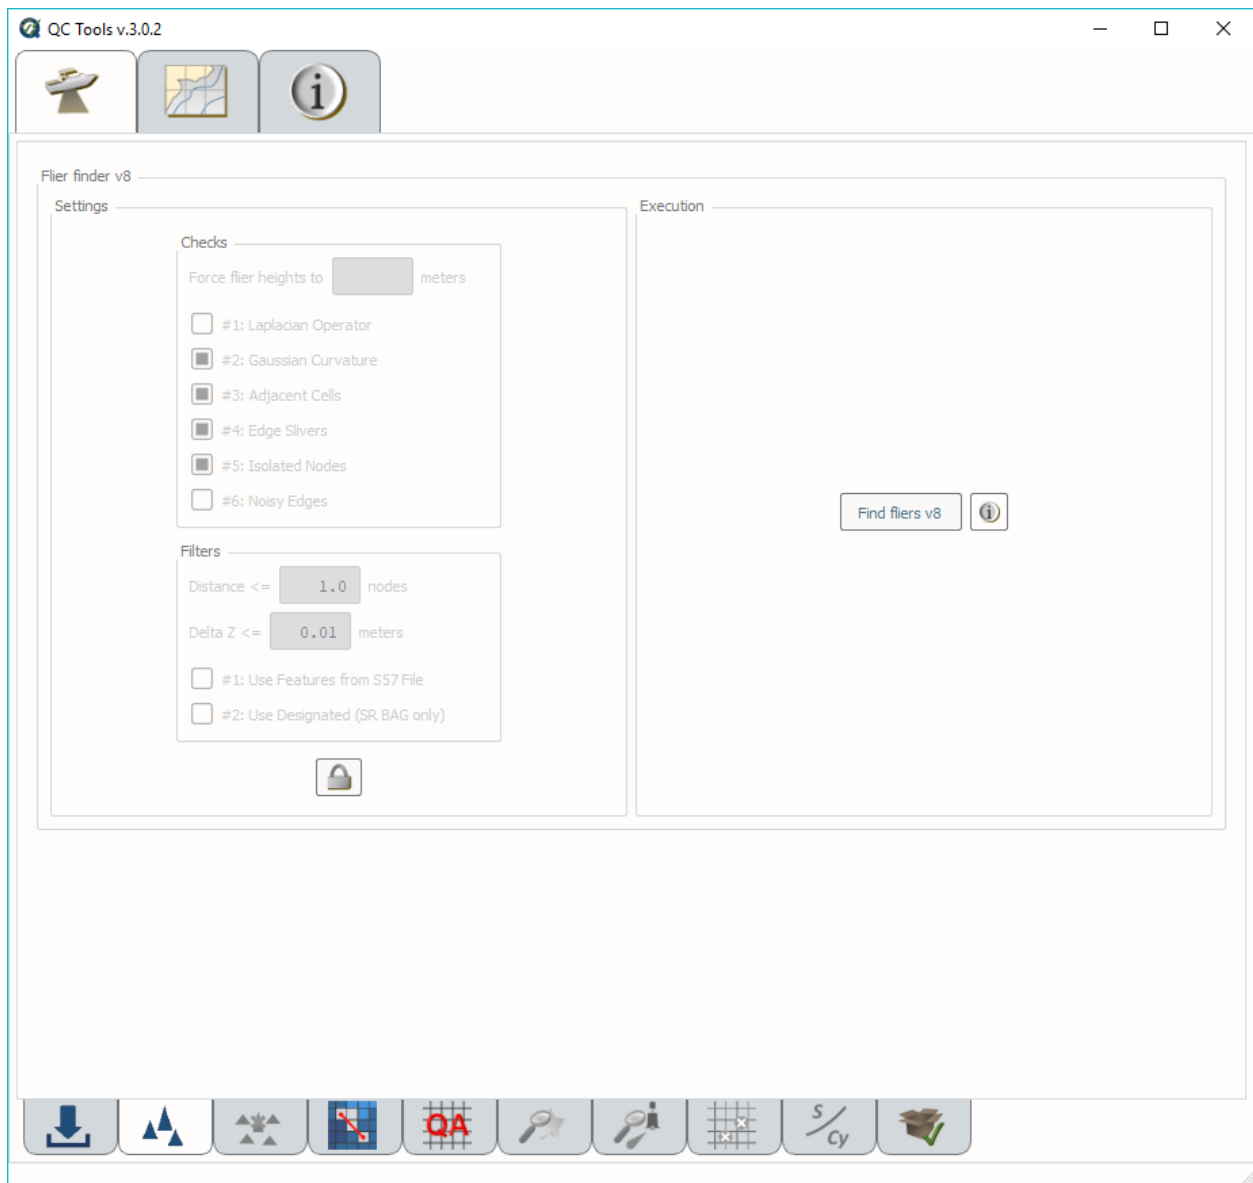

Fig. 2.5: The **Flier finder fliers** tab.
- Select the **Detect fliers** tab (Fig. 2.5) on the bottom of the QC Tools interface.